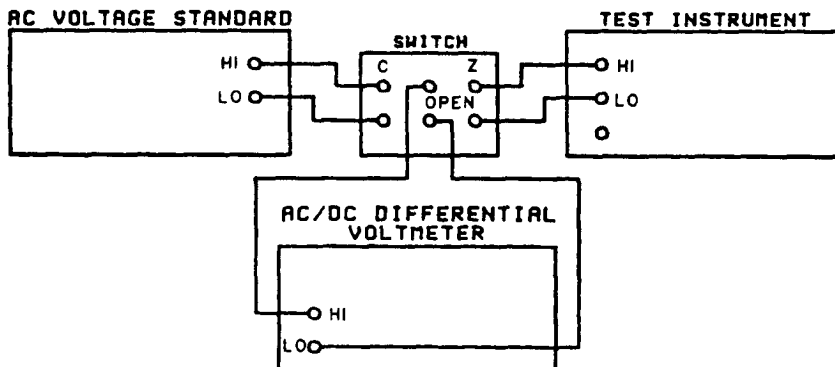

Figure 3.
4.6.8 Set DC Voltage Standard outputs to OFF and connect equipment as shown in Figure 3.
- 4.6.11 Set the switch of Figure 3 to Position C and adjust AC/DC Differential Voltmeter dials for a minimum indication on the Null Meter. Record the AC/DC Differential Voltmeter indication and return to the TVM Mode.